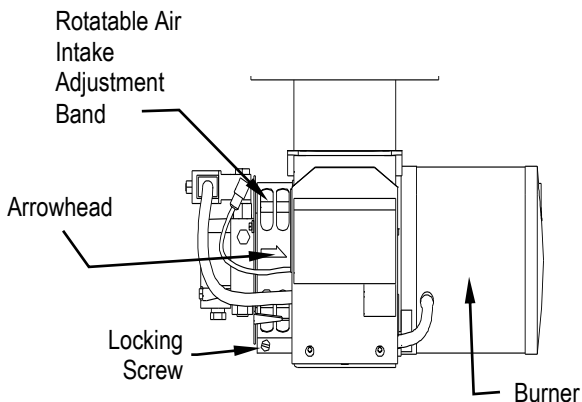

Figure 24
4. Locate air intake adjustment band as shown in Figure 24 below. Clear if necessary to see numbers. Observe position of arrow on air band relative to calibration numbers directly to the right. (Factory calibration starts out at close to "1")